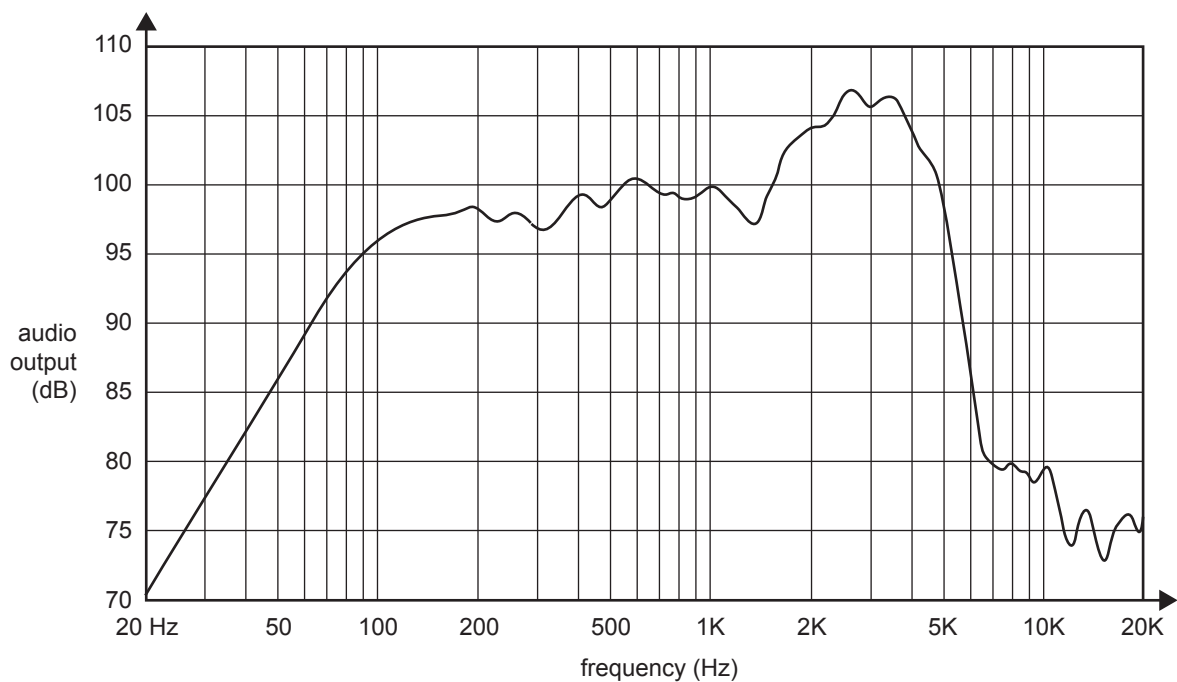

Figure 1
Figure 1 below shows the audio output performance graph for a music device that is Bluetooth[®] enabled. The device’s audio frequency output performance when connected through Bluetooth[®] is shown using a logarithmic scale on the graph.
- a. Why is the logarithmic scale used in the graph in Figure 1 best suited to representing the audio frequency output? 1 mark
- b. Refer to the graph in Figure 1. Find the specific frequency range for the best audio output performance at 95 dB or above for the device, and complete the table below. 2 marks